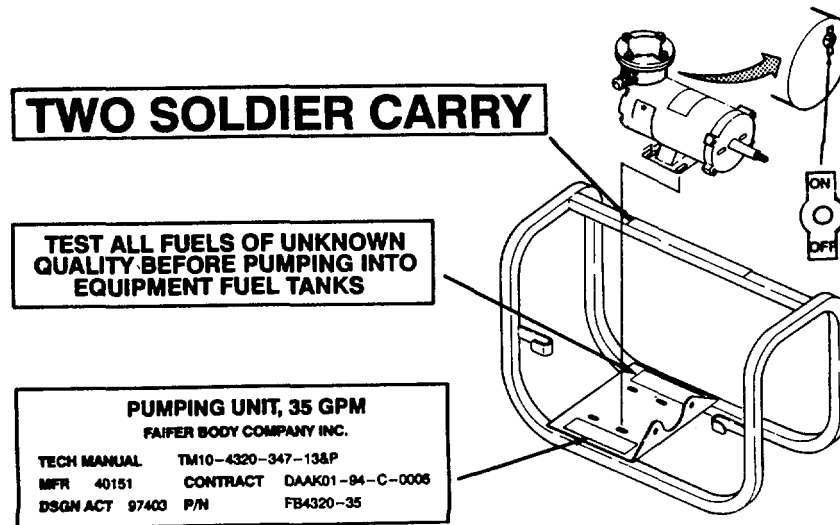

Figure 2-6. Decals and Instruction Plates.
- c. Remove nozzle assembly (18) from discharge hose assembly (16). Connect dust cap (15) onto the discharge hose assembly and the dust plug (17) into the nozzle assembly.
- d. Remove discharge hose assembly (14) from the pump discharge male coupling (12). Connect dust cap (11) onto pump discharge male coupling and dust plug (13) into to discharge hose assembly.
- e. Remove suction strainer (10) from suction hose assembly (9). Connect dust plug (8) into suction hose assembly.
- f. Remove suction hose assembly (7) from pump female suction coupling (5). Connect dust cap (6) onto suction hose assembly (7) and connect dust plug (4) into pump female suction coupling (5).
- g. Remove grounding cable (2) from pump (3) and ground rod assembly (1).
- h. Drain fuel from pump housing by opening drain cock (22) on side of pump.
**2.13. DECALS AND INSTRUCTION PLATES.** To assist the operator in the use of the pump assembly, various decals and information plates have been placed on the unit. The location of each of these decals or instruction plates and the wording of each one is shown in Figure 2-6.